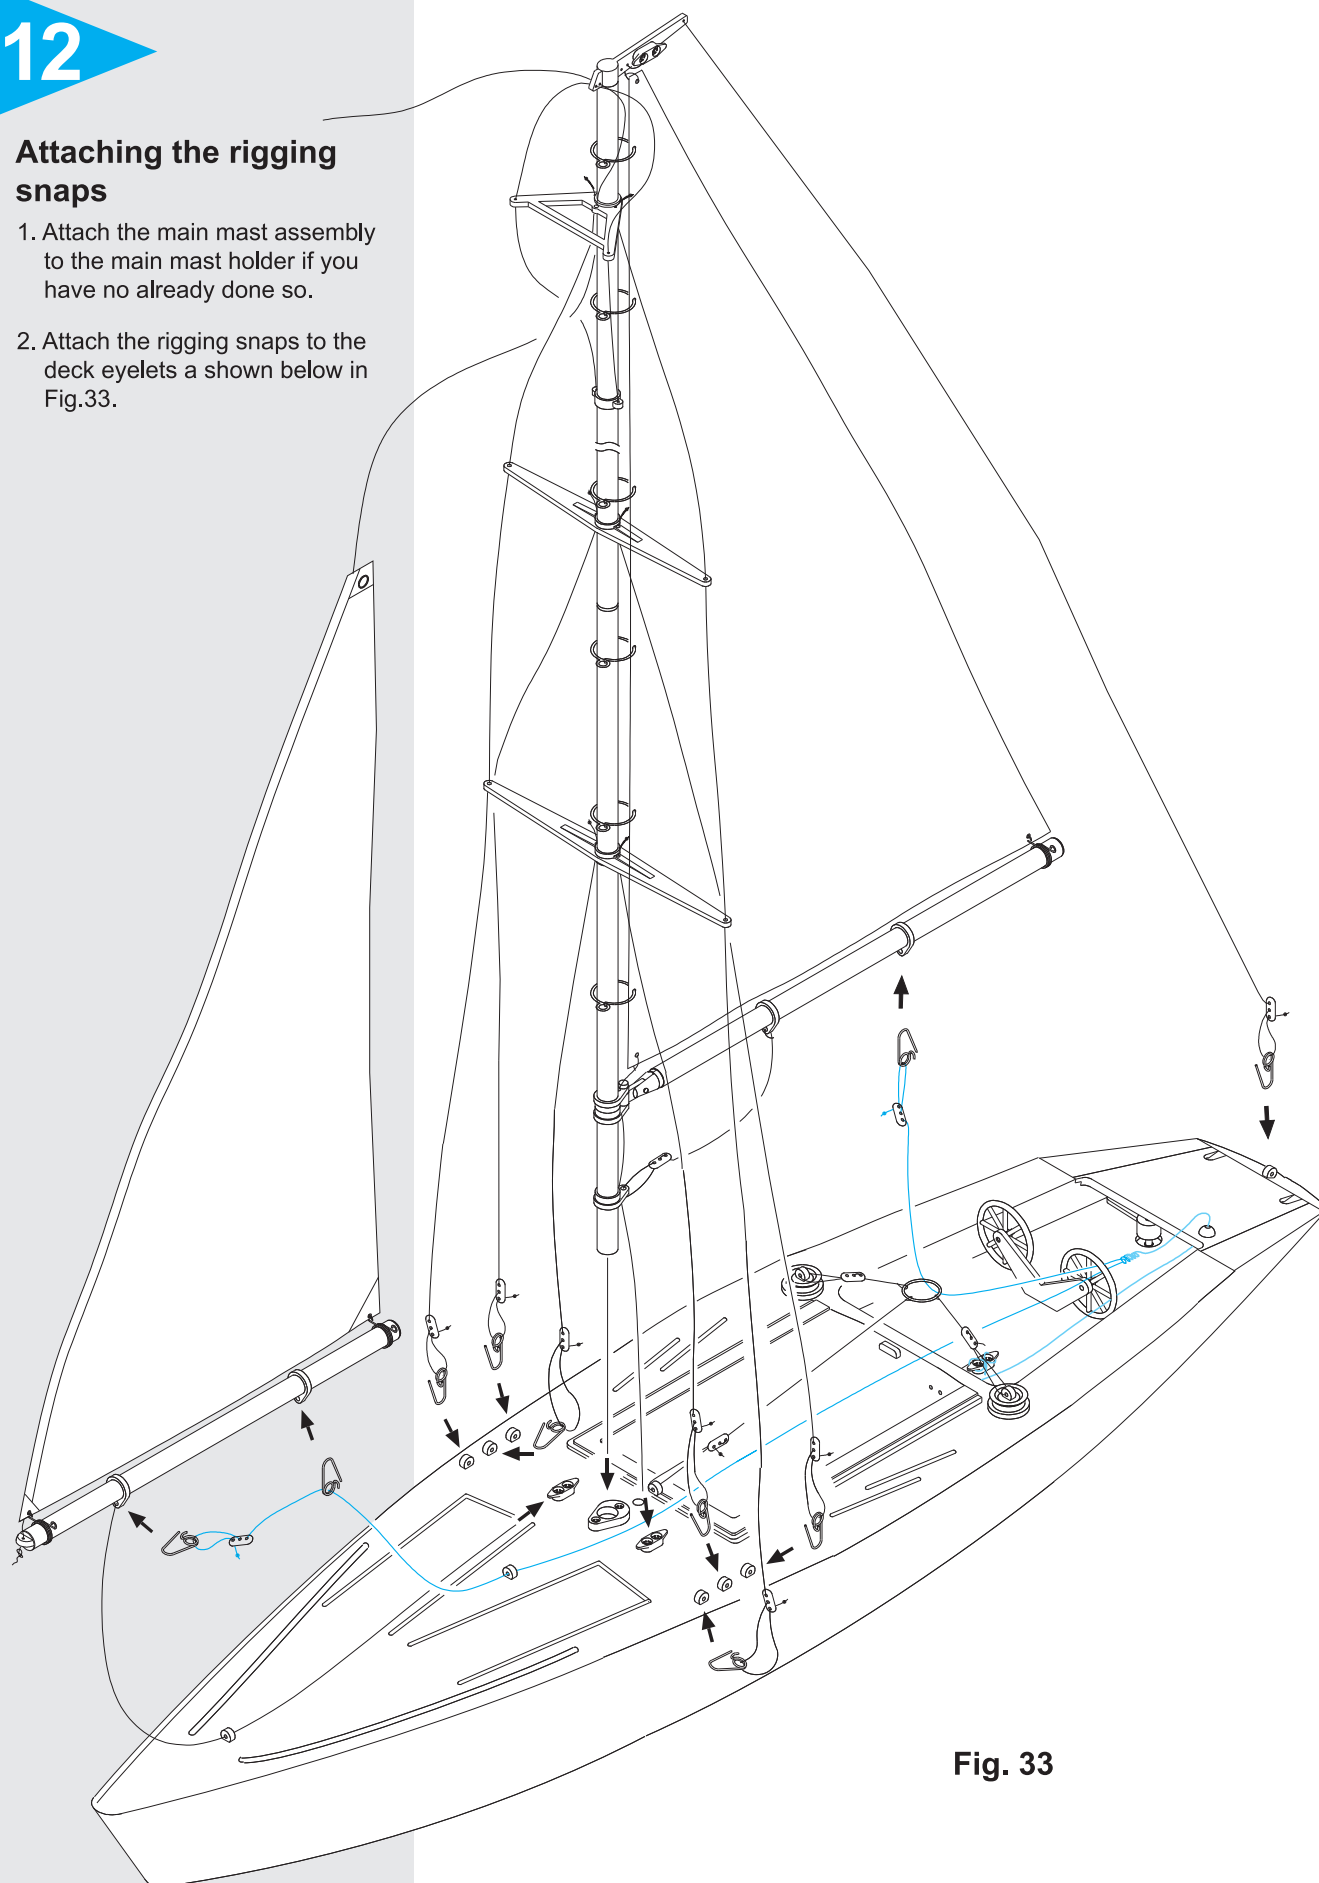

Fig. 33
2. Attach the rigging snaps to the deck eyelets as shown below in Fig.33.